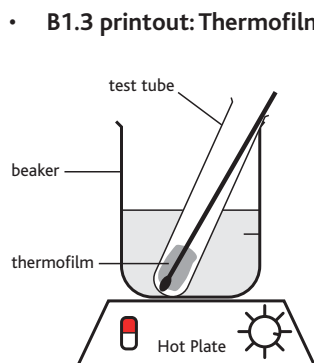
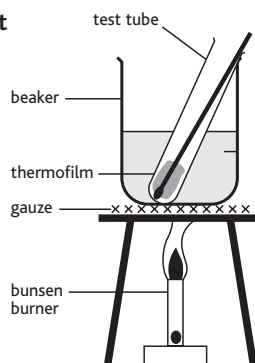

Figure 4
Figure 5
1. Set up the hot plate or the Bunsen burner tripod and gauze as shown in Figure 4 and Figure 5.